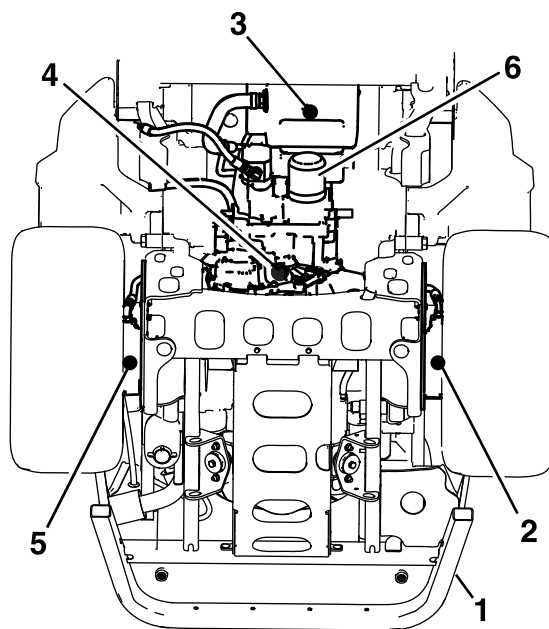

Figure 72
4. Place a large drain pan under the hydraulic reservoir, transmission case, and the left and right wheel motors (Figure 72).
5. Remove the drain plugs from each area and allow the hydraulic fluid to drain (Figure 72).
6. Clean the area around the hydraulic-fluid filter and remove the filter (Figure 72).